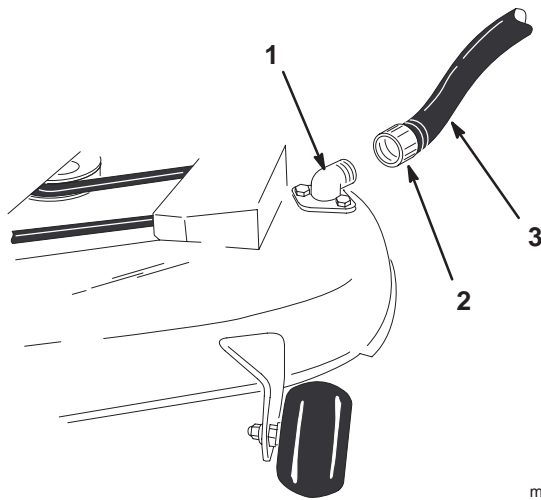

Figure 48
2. Attach the hose coupling to the end of the mower washout fitting, and turn the water on high (Fig. 48).